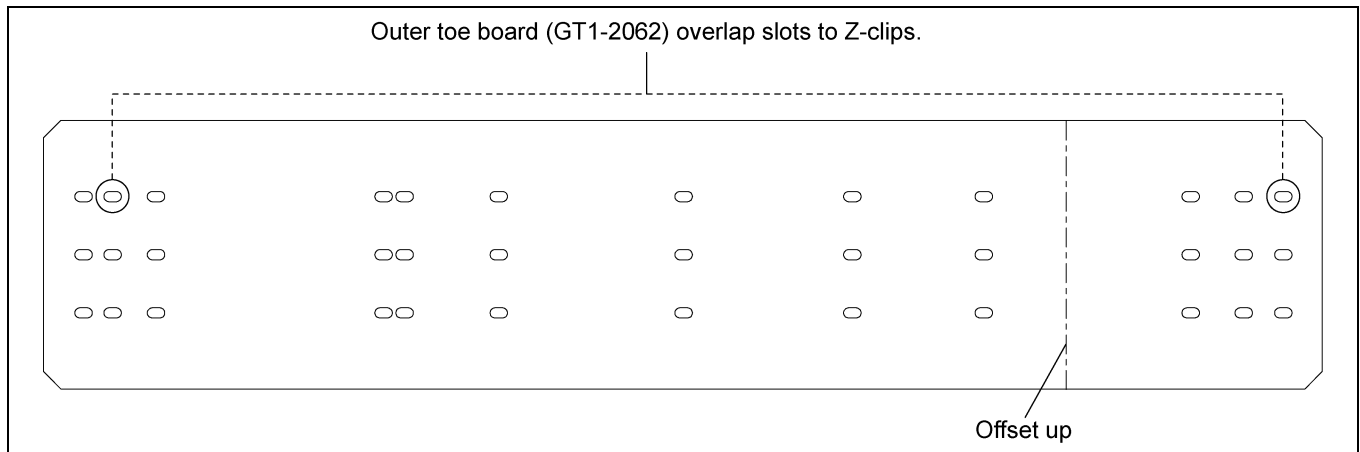

Figure 5E 24' Outer Toe Board (GT1-2062)
2. Outer toe board is arranged with overlap slots on each side. Install 24' outer toe boards (GT1-2062) to corresponding slots as shown in Figure 5E.